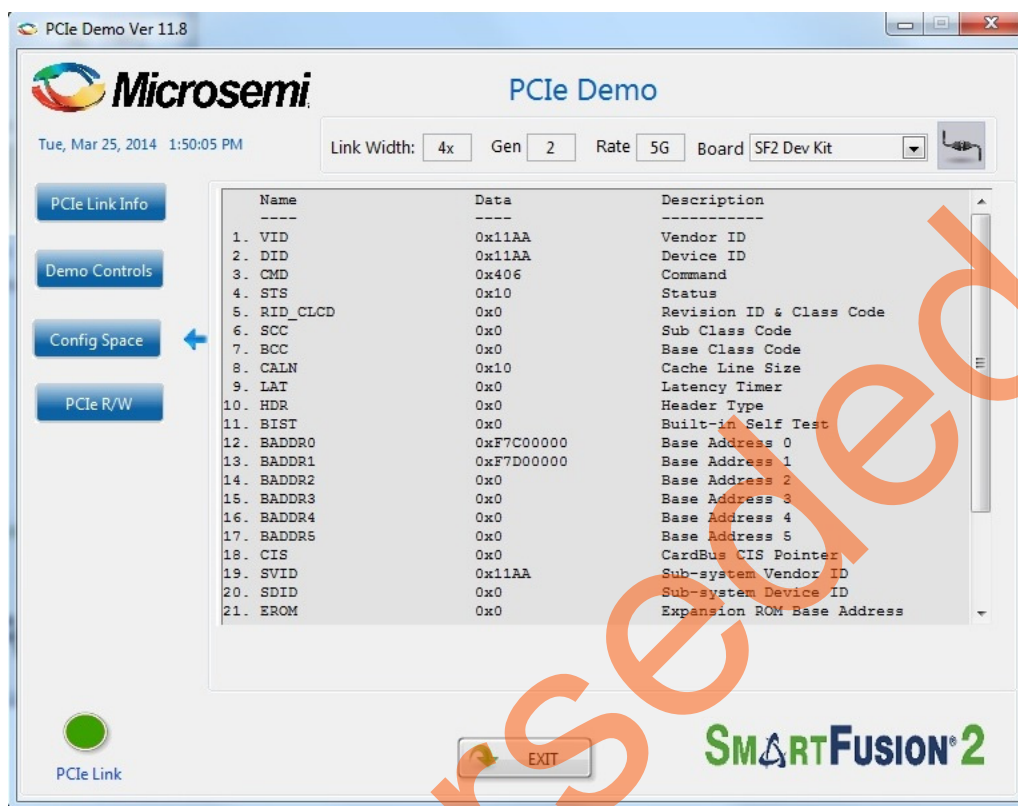

Figure 72 • Configuration Space
12. Click **Config Space** to read details about the PCIe configuration space. Figure 72 shows the PCIe configuration space.